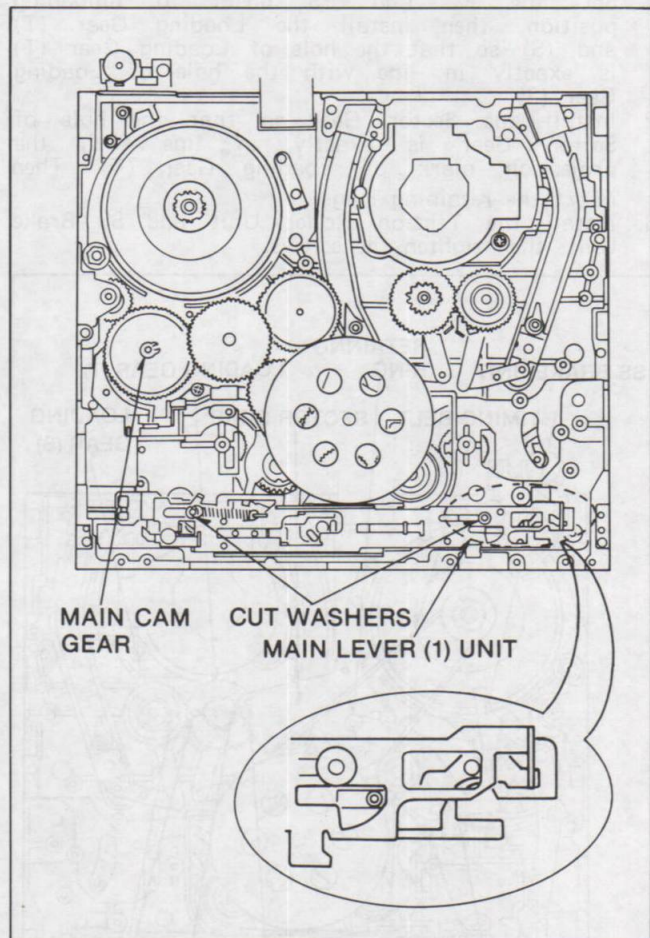

Fig. A9
1. Install the Main Lever (1) Unit and then insert the cut washers and hitch the spring as shown in Fig. A9.